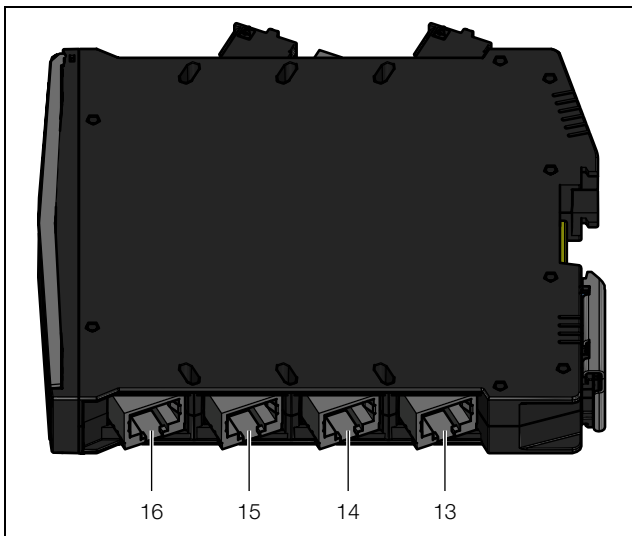

Fig. 6: Bottom connections on the IoT interface
Rather than via the direct connection and an external power supply unit, you can also supply the IoT interface with the required operating voltage from a Blue e+ cooling unit connected at connection X6 (fig. 6, item 14).
If the electrical connection is **not** made to the direct connection, no second cooling unit can be attached to connection X5 (fig. 6, item 13) and no components (such as CMC III sensors or the Smart Monitoring System) can be connected to the CAN bus connections.
A wide range of sensors, actuators and systems for access monitoring (see section 16 "Accessories") can be connected to the two CAN bus interfaces (fig. 6, item 15 and 16).